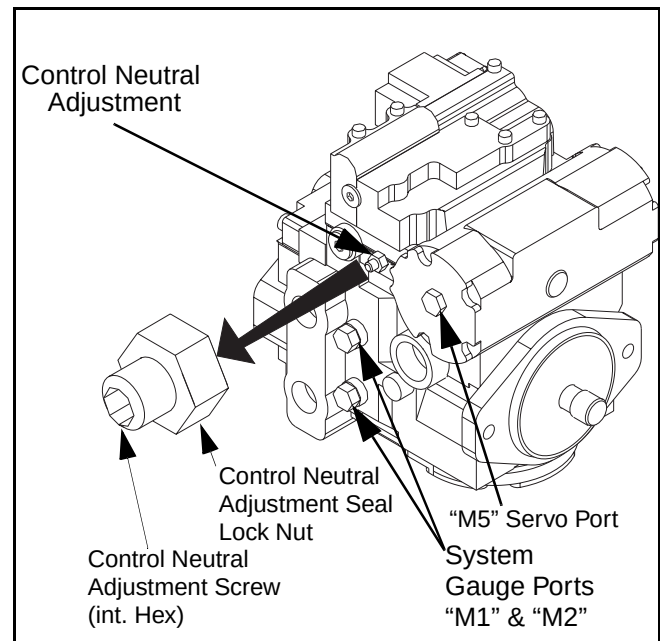

Figure 5 - 20 M1, M2, and M5 Traction Pump Ports
- 4) Install pressure gauges (10,000 psi) in the system pressure gauge ports “M1” & “M2”. (Figure 5 - 20) Start the engine and run at full throttle.
- 5) Using 17mm and 7mm (hex) wrenches, loosen the pump neutral adjustment seal lock nut while holding the pump neutral adjustment screw in position. (Figure 5 - 21) Move the pump neutral adjustment screw cw and ccw, until the two system pressure gauge readings are equal.